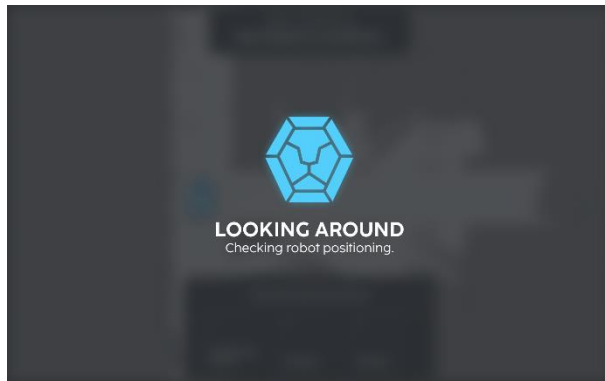

Fig. 4
3. Wait for the 'LOOKING AROUND' screen (Fig 4).